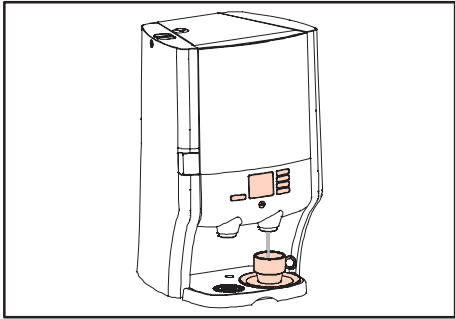

Fig. 12 Place a cup under the outlet
1. Place a cup on the drip grid under the right-hand outlet (fig. 12).